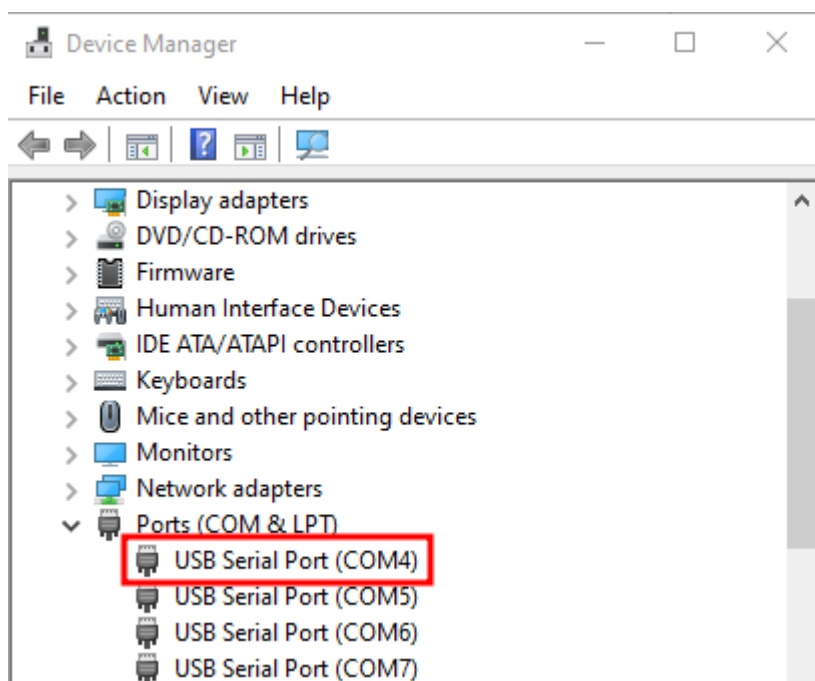

Figure 31: Device Manager
1. Before initiating the firmware upgrade, ensure that the module is connected to the PC and powered on normally. If it is properly connected and powered on, 4 random but consecutive COM port numbers appear in the “**Device Manager**”. Choose the lowest COM port number for communication with the GNSS module. See Figure 31: Device Manager.